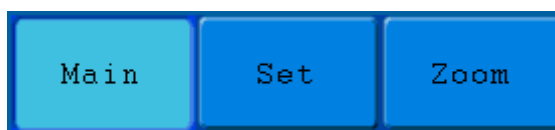

Figure 5-15 Time Base Mode Menu
3. **HORIZ MENU** button: with this button pushed down, the screen shows the operating menu (see *Figure 5-15*).